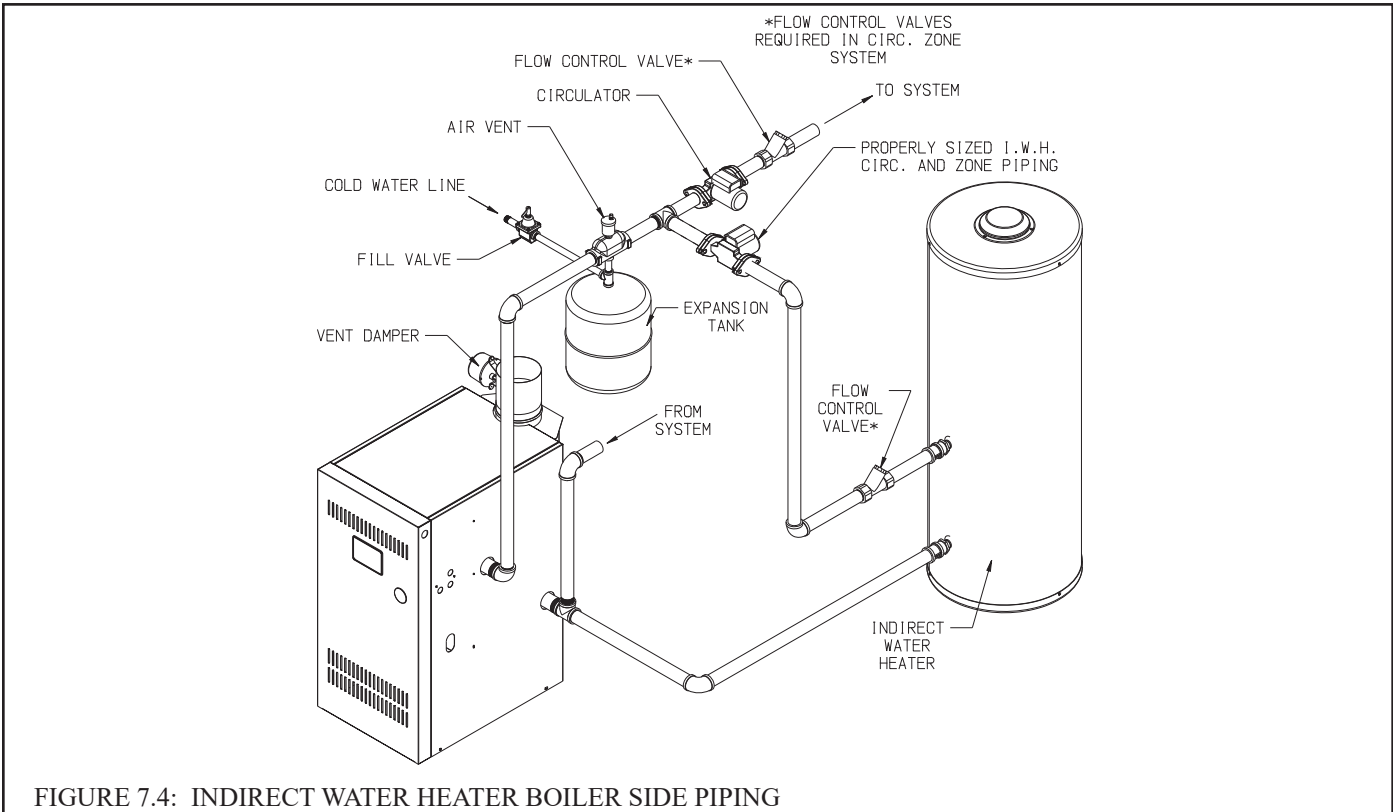

FIGURE 7.4: INDIRECT WATER HEATER BOILER SIDE PIPING
- 2) Indirect Water Heaters - Figure 7.4 shows typical indirect water heater piping. Boiler piping is the same as for any two-zone system. Figure 7.4 shows circulator zoning, which is usually preferred for indirect water heaters. Size the circulator and indirect water heater piping to obtain the boiler water flow through the indirect water heater called for by the indirect water heater manufacturer.